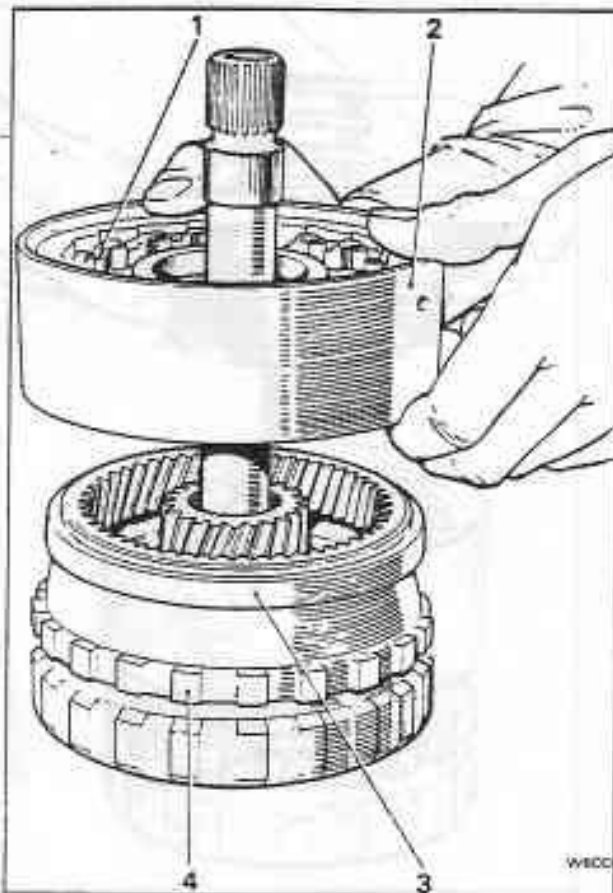

Fig. T19-3 Removing the reaction carrier assembly
19. Remove the reaction carrier and roller clutch assembly from the output carrier (see fig. T19-3); remove the roller clutch assembly and spacer ring from the reaction carrier.